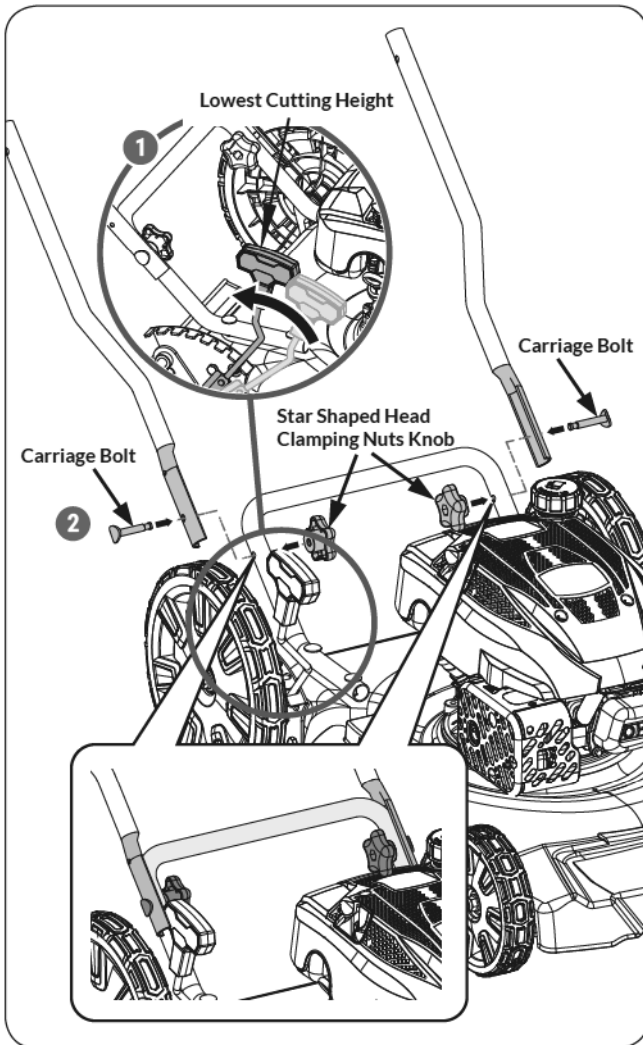

Figure 2
1. Move the cutting height adjustment lever to the lowest position. (See **Figure 2, illustration 1**)
2. Align the holes in the connecting handlebars and lower handle. Insert the carriage bolts and secure with star shaped head clamping nuts knobs. (See **Figure 2, illustration 2**)